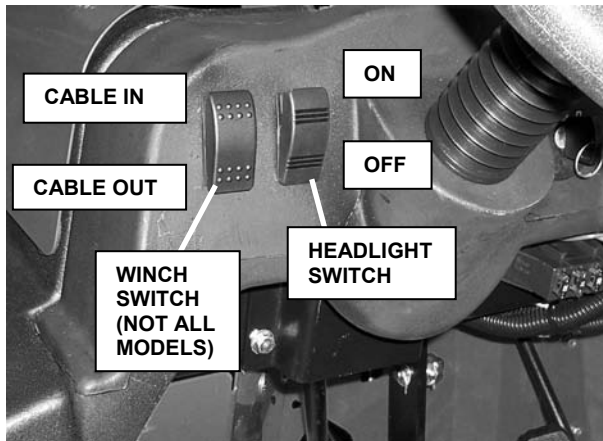

FIGURE 2.5
**2.2.9. Headlights.** The headlights are controlled by a rocker switch, located on the dash to the immediate left of the steering wheel. See Figure 2.5. Push the switch up to turn the headlights on. Push the switch down to turn the headlights off. Note: The engine ignition switch must be in the “RUN” position for the headlights to operate. Repair non-functional headlights before operating machine and keep lenses clean.
**2.2.15. Warn™ Electric Winch (not on all models).** The winch switch is located on the dashboard next to the headlight switch, to the left of the steering wheel. Pushing the switch down lets cable out; pushing the switch up pulls cable in. See Figure 2.5. Refer to manuals supplied with literature package for comprehensive instructions on safe use and maintenance of electric winch.